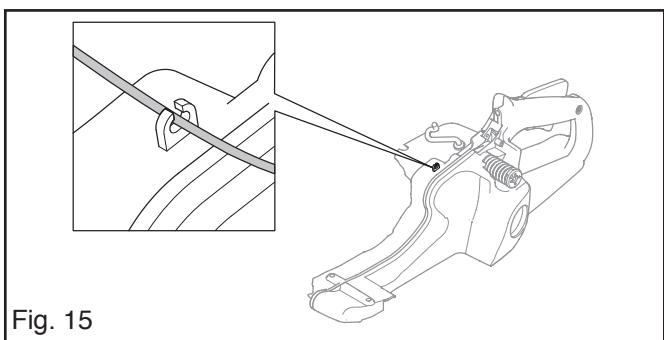

Fig. 15
7. Loosen the cable fastening on the tank. See fig. 15.